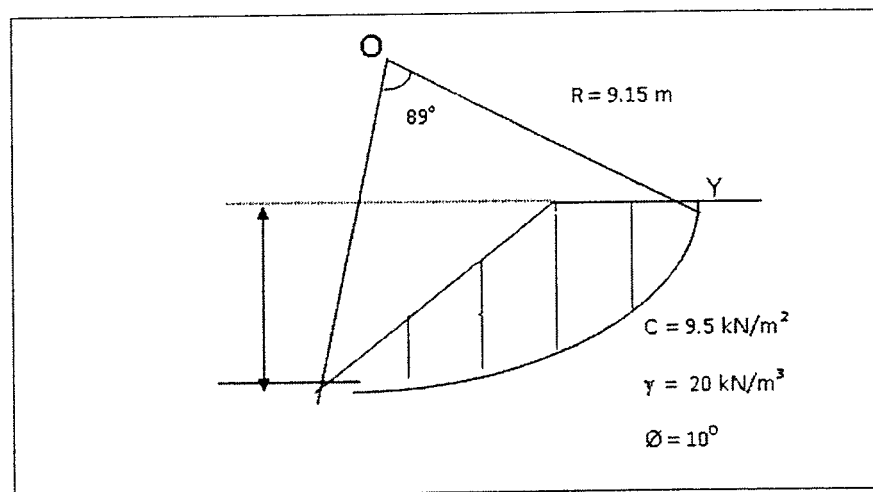

Figure 3(b)/ Rajah 3(b)
- (b) By referring to **Figure 3(b)**, analyse the slope stability data on **Table 3(b)** by using suitable method.